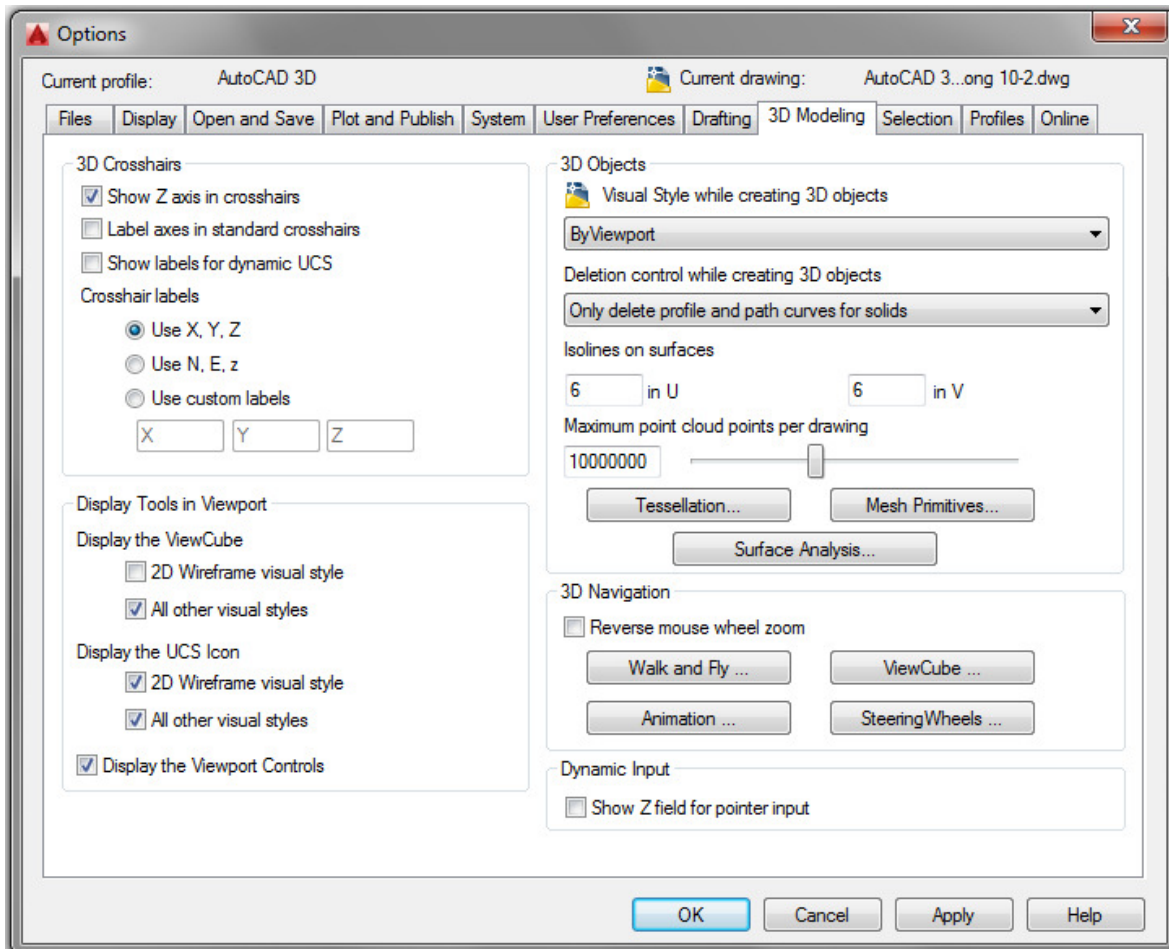

Figure Step 13A
Step 13 Open the Options dialogue box using the OPTIONS command. Enable the All other visual styles item under the Display the ViewCube, as shown in the figures. Click OK to close the dialogue box. (Figure Step 13A and 13B)